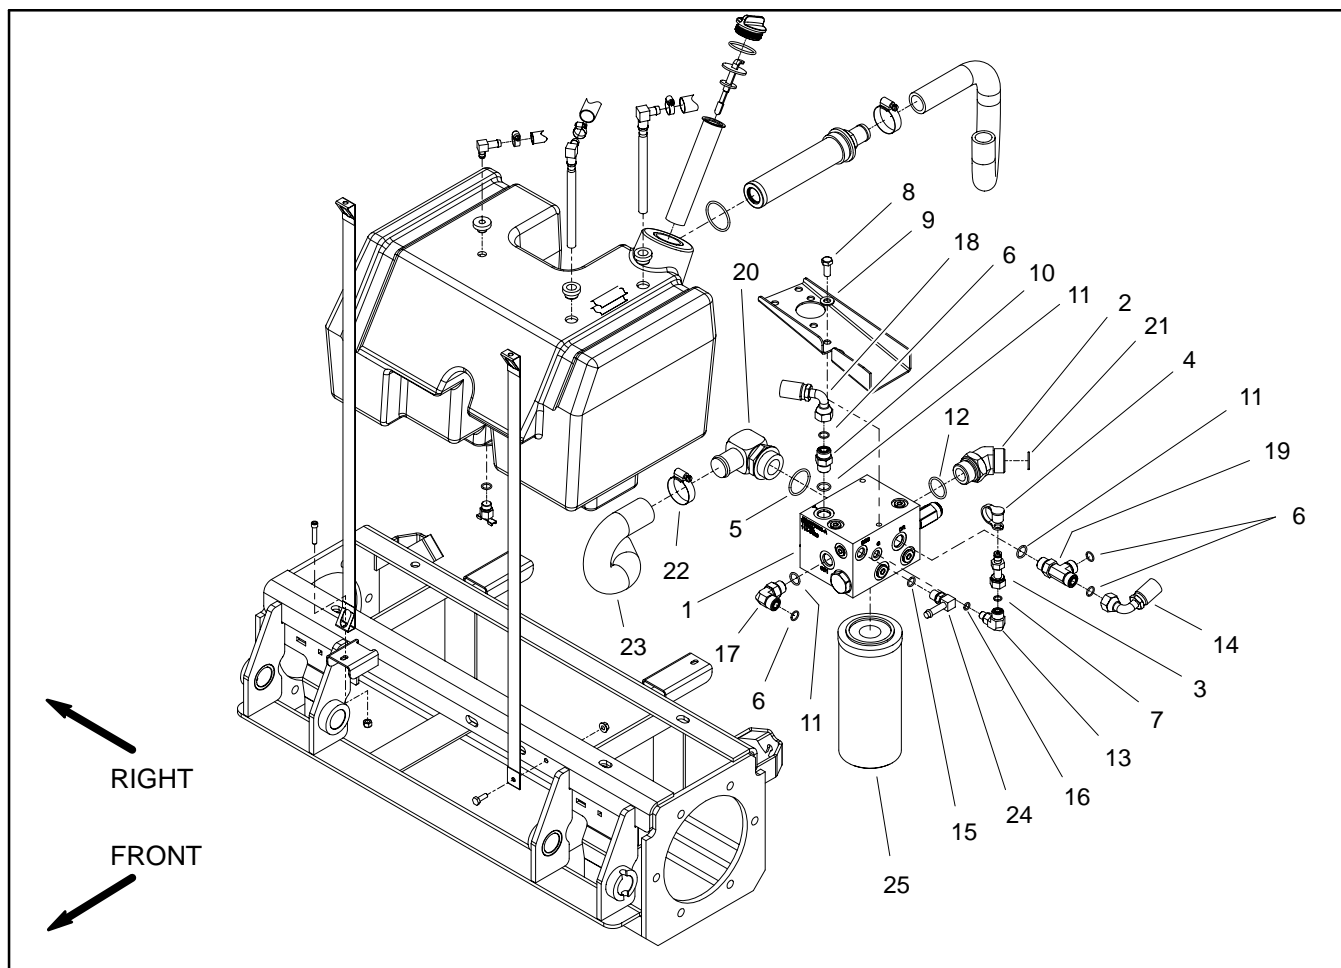

Figure 70
Removal (Fig. 70)
4. Remove filter manifold from the frame using Figure 70 as guide.
Installation (Fig. 70)
2. Install filter manifold to the frame using Figure 70 as guide.